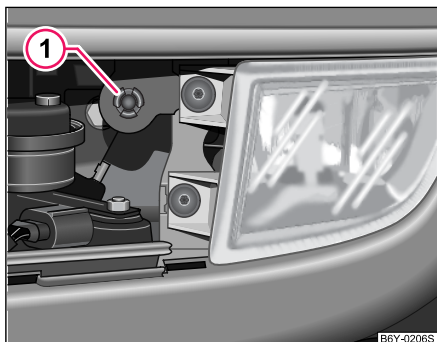

Fig. 159 Removing the fog light
- Unscrew the screws on the fog light holder. The upper screw holds the outer air temperature sensor* ① in place on the light ⇒ fig. 159